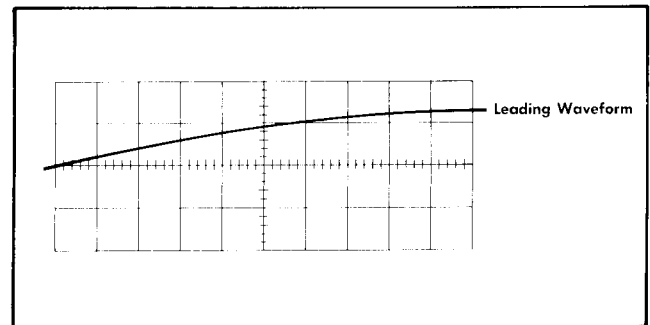

Fig. 3-9. Establishing the reference point with the leading waveform.
3. Carefully center the display waveform about the horizontal centerline. Switch on the magnifier and adjust the horizontal position of the trace so that the displayed curve crosses the horizontal centerline at the extreme left marking of the graticule (see Fig. 3-9). Make this adjustment with the black HORIZONTAL POSITION control. The VERNIER HORIZONTAL POSITION control should be placed in the fully clockwise position.
Fig. 3-10. Computing the phase angle. The distance from the reference point established in Fig. 3-9 to the point where the curve crosses the centerline, multiplied by 8° per centimeter is the phase angle.